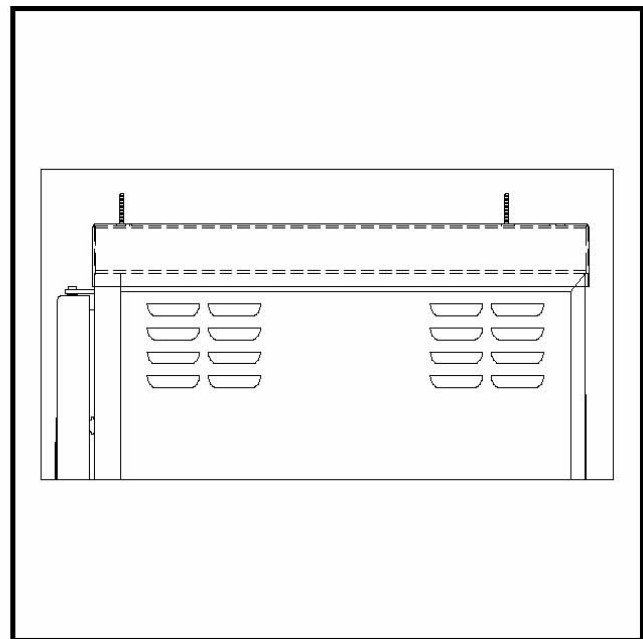

Figure 3
- The lower edges of the retainer will extend over the top of the steamer. (See Figure 3.)